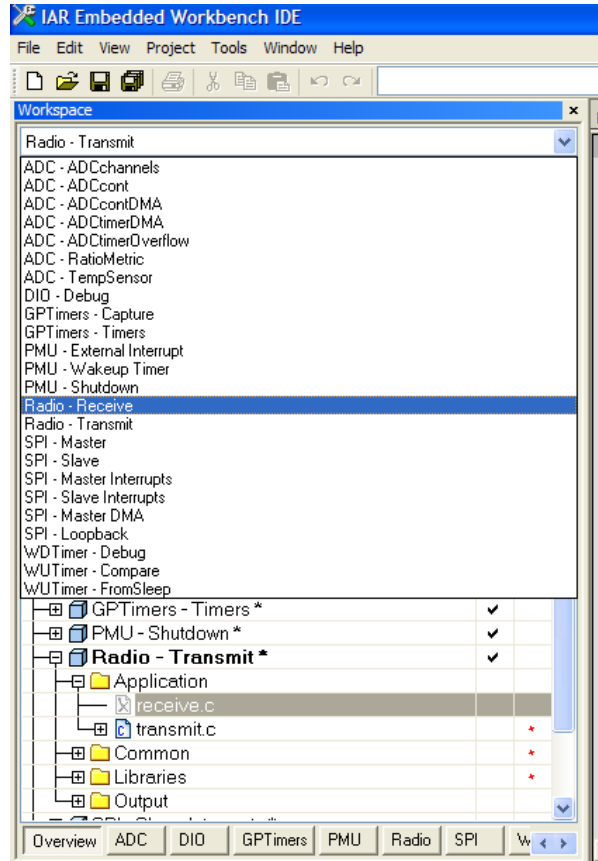

Figure 20. Selecting the Radio Receive Example Program
1. Select the **Radio – Receive** example program in IAR Embedded Workspace as shown in Figure 20.